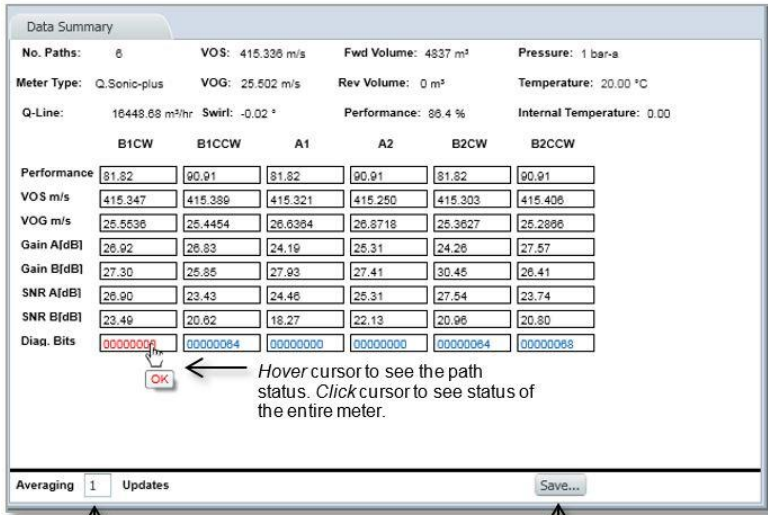

Figure 11-2 Data summary
In the bottom right-hand quarter of the window all relevant data and measurements are summarized in a chart for each of the six paths. By default, the chart will show “Averaging 1 Updates”, which is not an average, but rather the live results updated every two seconds. If you wish to adjust this and see an average of 5, 10, etc. updates, type the desired number in the averaging updates box. For example, “Averaging 5 Updates” will show the average of the results of the past 10 seconds. Please see Figure 11-2 for a closer view.
Therefore, when saving a file, if you choose **Averaging [5] Updates** it will save the results over a period of ten seconds. Please see Figure 11-2.
- ▶ Press the **Save** button in the bottom right-hand corner of the data summary window. (Figure 11-2)
Hover the cursor over the blue **Diag. Bits** (Diagnostic Bits) field to see a quick status update. (The red **OK** in Figure 11-2)